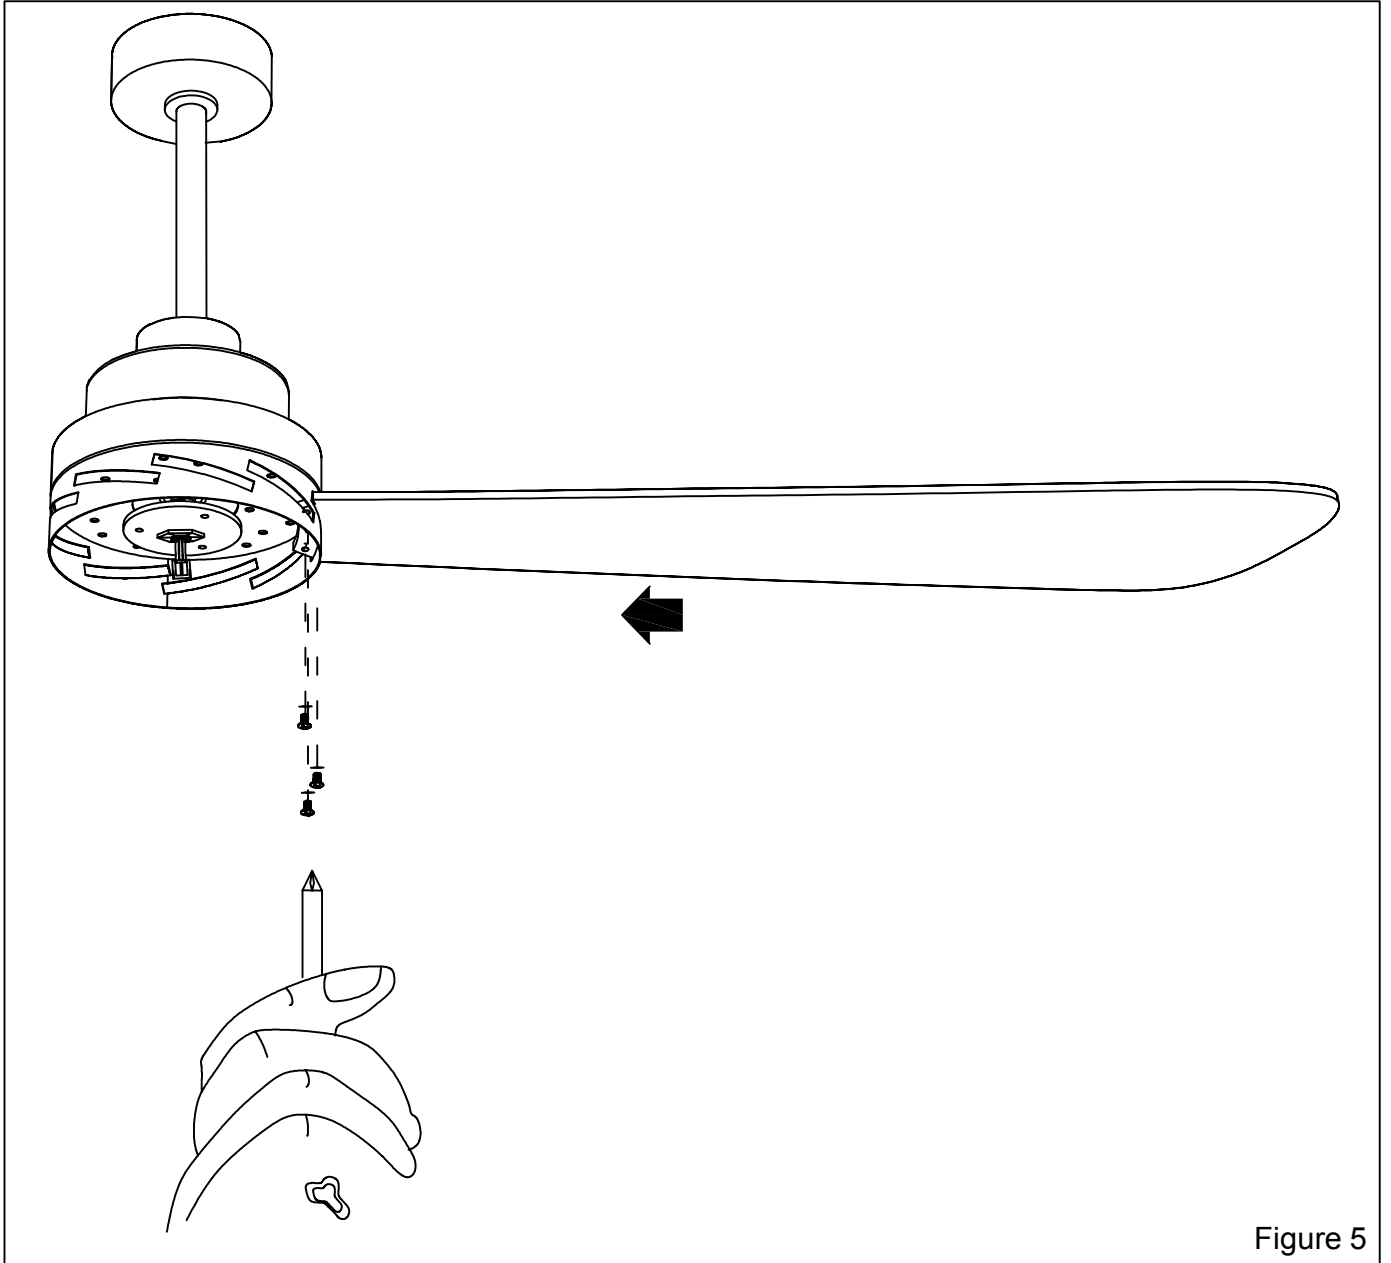

Figure 5
- Fix the fan blades on the motor with screws in turn.(Figure 5)